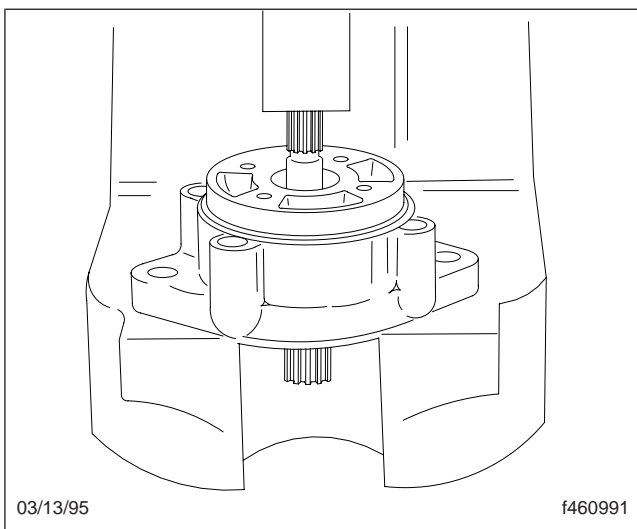

Fig. 15, Pressing out the Input Shaft and Ball Bearing Assembly
14. Press out the input shaft and ball bearing assembly. See Fig. 15.